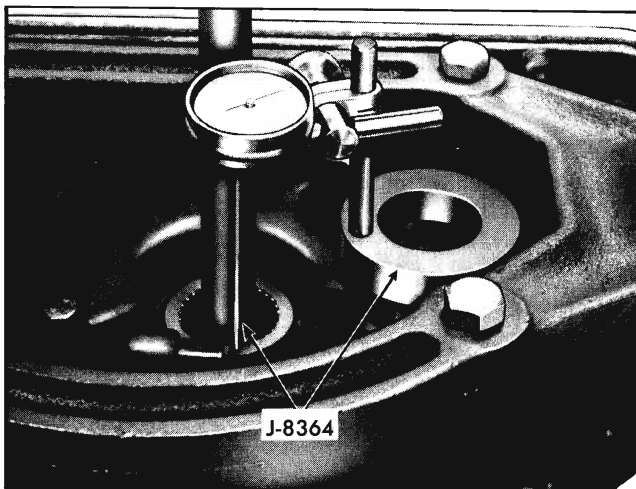

Fig. 7A-72 Zeroing Indicator on Planet Carrier Hub
14. Install thrust washer in pump body (see Fig. 7A-35).
19. Adjust low band by first tightening adjusting screw to 40 ± 5 inch-lbs., then back off four (4) full turns exactly. Hold adjusting screw and lock adjustment by fully tightening lock nut.